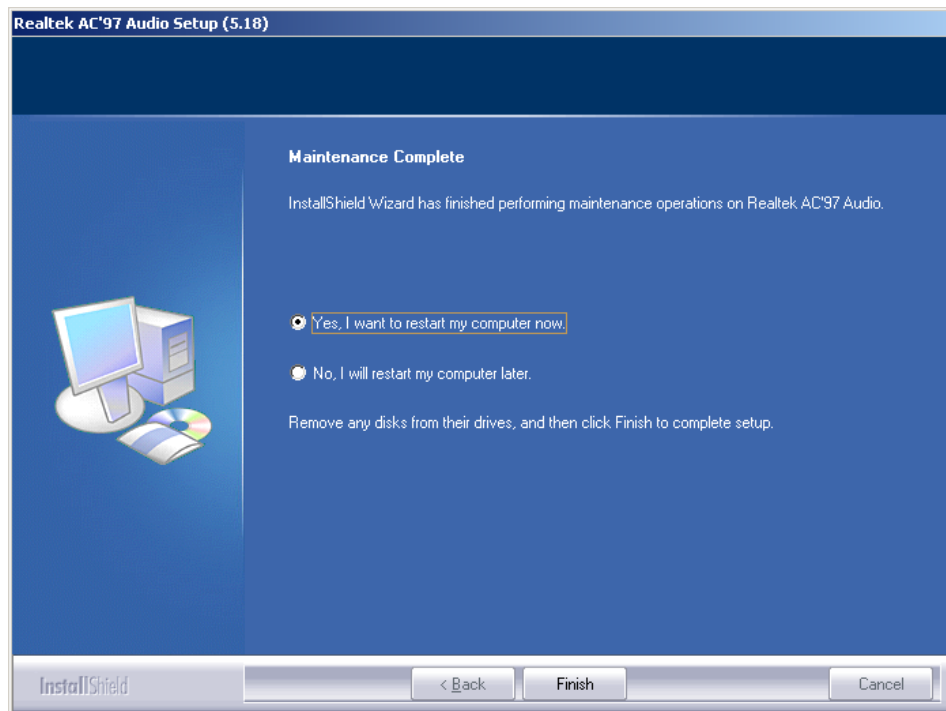

Figure 6-24: Audio Driver Installation Complete
Step 6: After the driver installation process is complete, a confirmation screen appears (Figure 6-24).